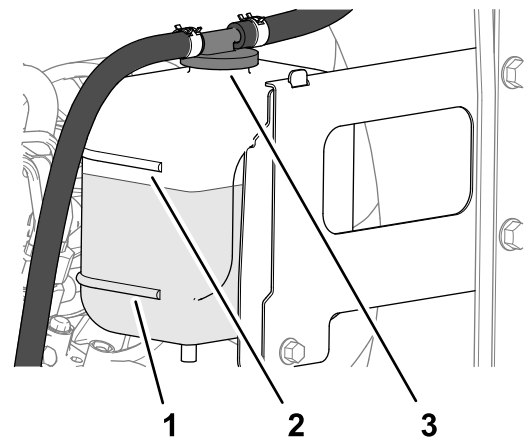

Figure 108
3. Check the level of coolant in the expansion tank (Figure 108).